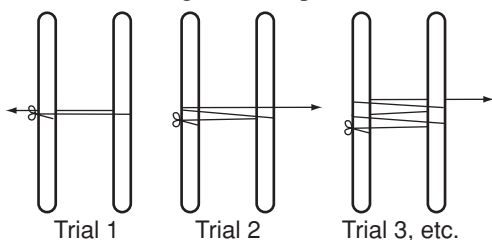
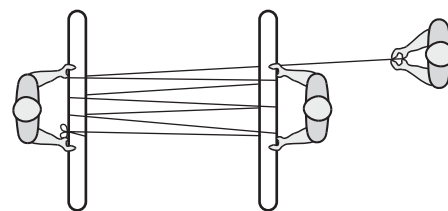

Figure 1.
Figure 2.
5. Wrap the rope around the middle of the other broom handle (see Figure 1) and give the free end to the rope puller. The rope puller should stand behind, and slightly to the side of one of the holders, so that the rope will be pulled perpendicular to the length of the broom handles. The free end of the rope should go under the arms of the broom-handle holder so that the rope is pulled parallel to the ground as well. See Figure 2.
7. Repeat steps 5 and 6 several times. For each new trial wrap the rope around the broom handles a different number of times (see Figure 1). How much more difficult is it for the holders with each new trial? How much easier is it for the puller? What is the mechanical advantage of the puller as a new loop is added to the pulley system? How close are the broom handle holders drawn together compared to the amount of rope pulled by the rope puller during each new trial?